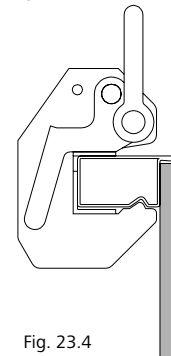

Fig. 23.4
3. Release the safety lever and press it back to its start position so that the crane hook is locked completely (Fig. 23.4).